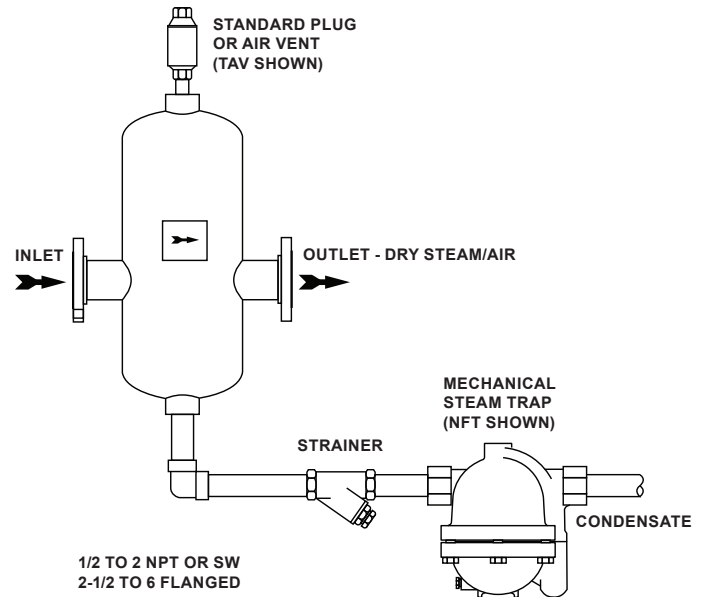

Figure 2. Eliminator Series Typical Installation
2. Install the steam separator in a horizontal pipe configuration with the drain directly below the line, see Figure 2.